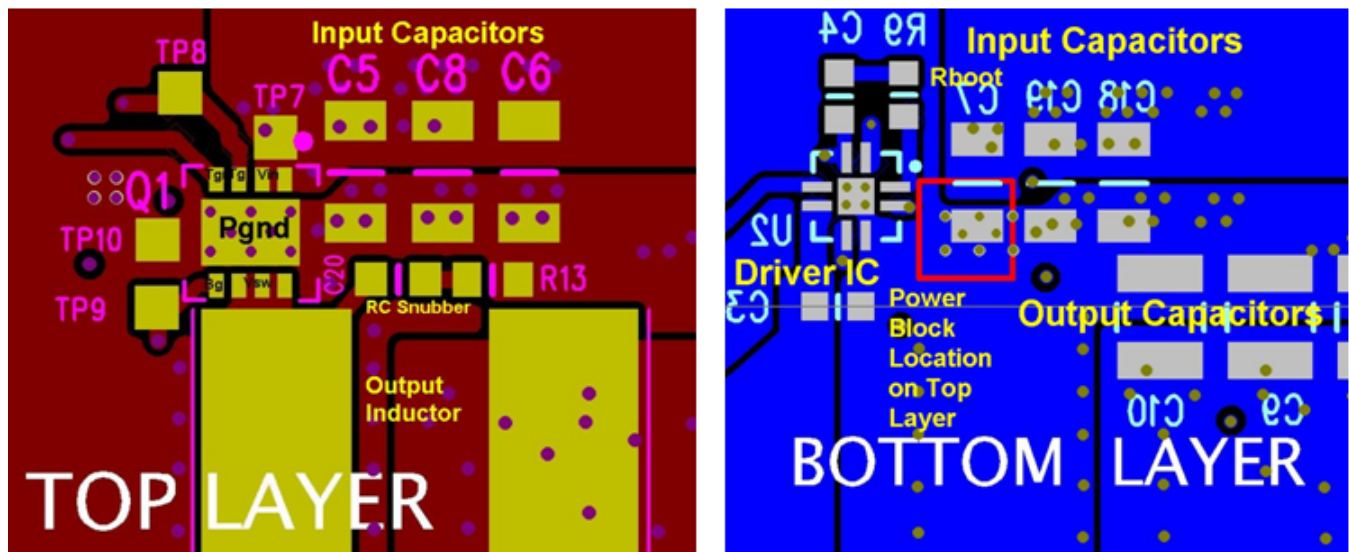

Figure 21. Recommended PCB Layout (Top Down)
- The placement of the input capacitors relative to the Power Block's VIN and PGND pins should have the highest priority during the component placement routine. It is critical to minimize these node lengths. As such, ceramic input capacitors need to be placed as close as possible to the VIN and PGND pins (see Figure 21). The example in Figure 21 uses 6 \times 10- μ F ceramic capacitors (TDK part number C3216X5R1C106KT or equivalent). Notice there are ceramic capacitors on both sides of the board with an appropriate amount of vias interconnecting both layers. In terms of priority of placement next to the Power Block, C5, C7, C19, and C8 should follow in order.
- The switching node of the output inductor should be placed relatively close to the Power Block VSW pins. Minimizing the node length between these two components will reduce the PCB conduction losses and actually reduce the switching noise level.⁽¹⁾ In the event the switch node waveform exhibits ringing that reaches undesirable levels, the use of a Boost Resistor or RC snubber can be an effective way to easily reduce the peak ring level. The recommended Boost Resistor value will range between 1.0 to 4.7 Ω depending on the output characteristics of Driver IC used in conjunction with the Power Block. The RC snubber values can range from 0.5 to 2.2 Ω for the R and 330 to 2200 pF for the C. Please refer to TI Application Note SLUP100 for more details on how to properly tune the RC snubber values. The RC snubber should be placed as close as possible to the Vsw node and PGND (see Figure 21).⁽¹⁾
- (1) Keong W. Kam, David Pommerenke, "EMI Analysis Methods for Synchronous Buck Converter EMI Root Cause Analysis", University of Missouri – Rolla
- Use the smallest drill size allowed in your design. The example in Figure 21 uses vias with a 10 mil drill hole and a 16 mil capture pad.